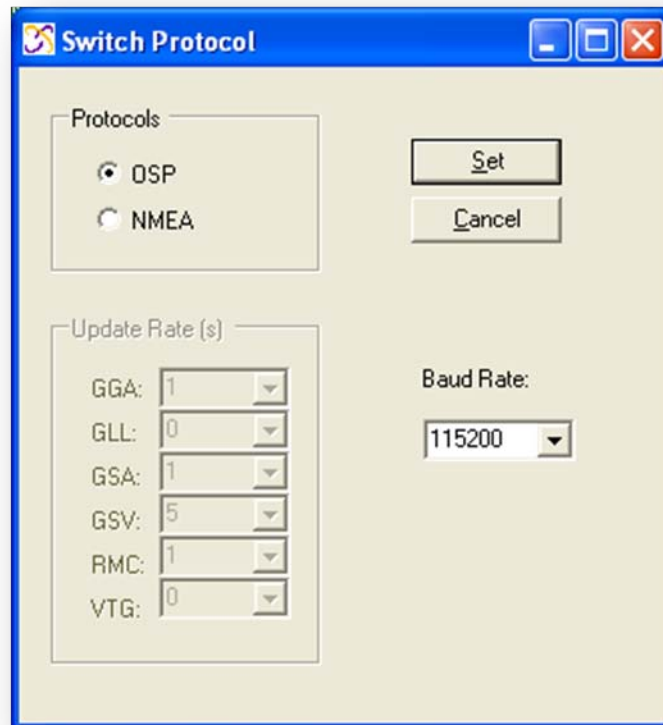

Figure 16: Switching to OSP protocol with its default 115200 baud rate
1. While the receiver is outputting messages to SiRFLive, click on the *Log File* icon on the *Main Tool Bar* or go through the *Main Menu Bar* under “Log File” then “Start. . .” shown in Fig 16.